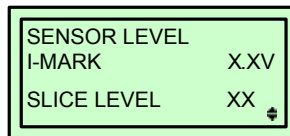

Figure 6-13, Slice Level Menu Screen
- 7 Advance to the Slice Level menu screen (Figure 6-13).